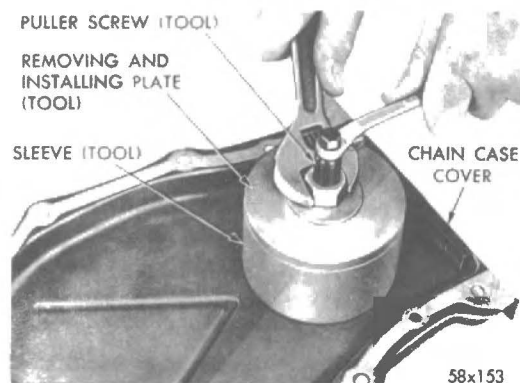

Fig. 16 Removing Oil Seal Tool CA-3506
(4) Place the flat washer and nut on puller screw. Hold the centre screw and tighten the lock nut to remove the seal. (Fig. 16).